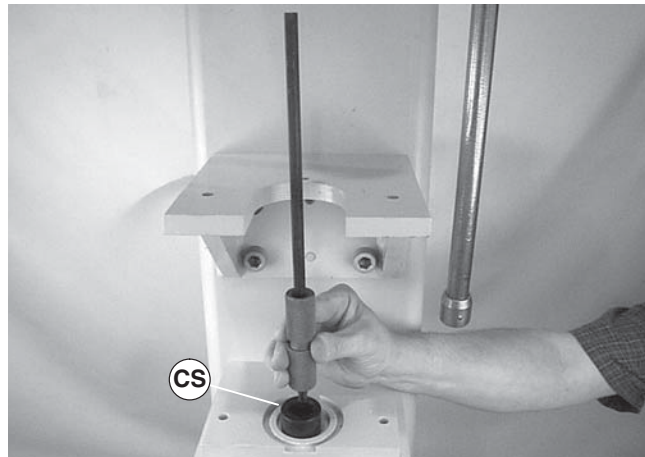

Figure 50
4. Orient bearing anvil/sleeve removal tool (part # 25-09*) (Figure 50, item CS) with cavity facing up and place pulley onto tool.